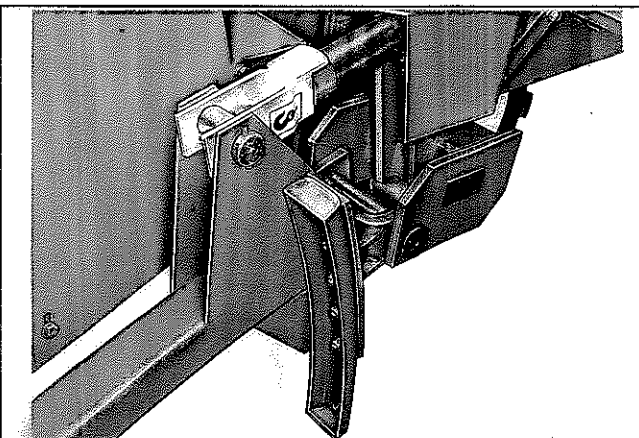

Fig.20
**Fig. 20** have a weight of maximum 30 kg to the ground. The limitation rod **B** must be in the center position when the machine is on plane ground so that the pick-up can move a little up and down and follow the field contours. Adjust on the opposite side at the lift suspension's hydraulic cylinder or spindle.